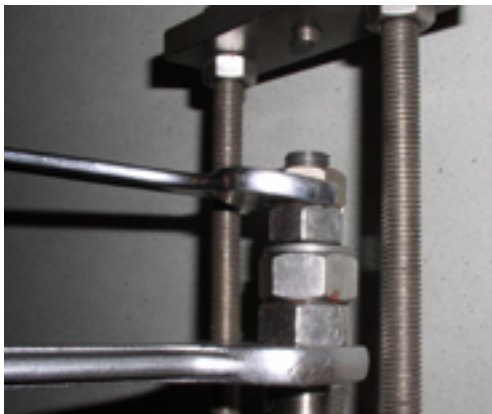

Fig. 18
- The spacer sleeve may also be replaced by hex. nuts. See Fig. 18.
- When undoing the adjusting screw 538, hold the spindle with a wrench on the counter nut so that the bellows 206 or the spring-type pin 939/1 are not damaged. See Fig. 18.
- Tighten spring bonnet **513** with hex. nuts until they sit tightly on the body **100**. See Fig. 18.